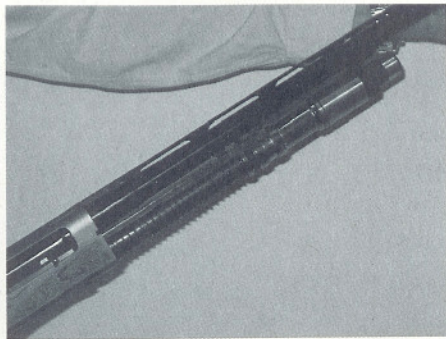

Fig. 2
2. With the bolt forward,position the barrel extension between the bolt and the inside of the receiver while ensuring the gas cylinder hanging below the barrel slides over the shaft of the magazine cap. Move the barrel carefully to the rear until it seats in the receiver and the gas cylinder is seated in the gas piston **(FIG.2)**.